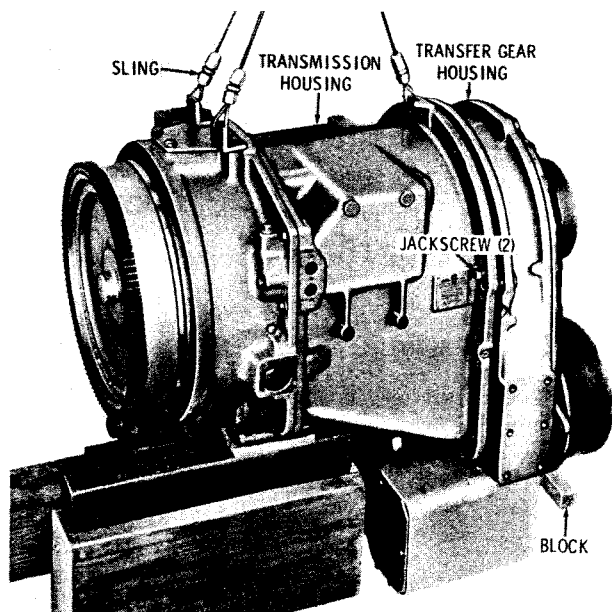

Fig. 5-6. Separating transmission housing from transfer gear housing
(1) Place a wood block at the rear of the transfer gear housing, under the brake drum (or rear output flange, or bearing retainer if not equipped with a brake), to prevent its tipping rearward (fig. 5-6).
(2) Remove 27 bolts and lock washers which attach the transmission housing to the transfer gear housing. Install two of the bolts, to be used as jackscrews, into the threaded holes in opposite sides of the transmission housing (fig. 5-6).
(3) Tighten the jackscrews to separate the transmission housing from the transfer gear housing. Attach a lifting sling as shown in figure 5-6. Support the transmission housing on the sling, and remove the blocks supporting it.